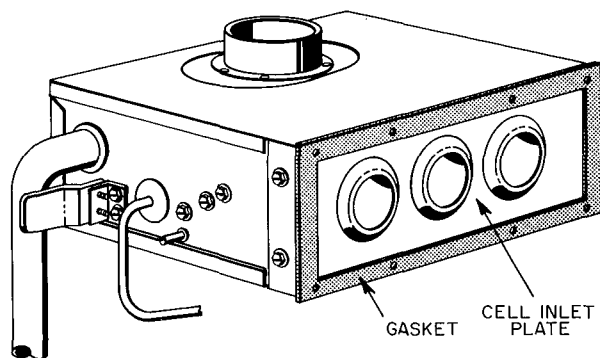

Fig. 10 — Burner Enclosure
13. Check condition of gasket on cell inlet panel of burner enclosure. Replace gasket if necessary (Fig. 10).